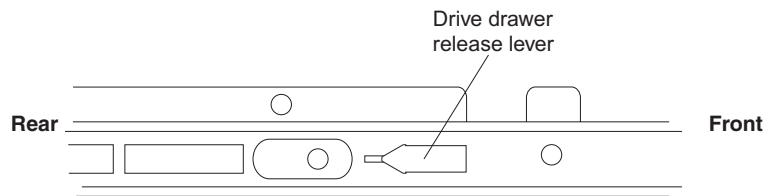

Figure 92. Drive drawer release lever on the side of the drive drawer
- d. Slide the drive drawer release lever (see Figure 92) on both sides of the drive drawer toward you, and remove the drive drawer from the enclosure.